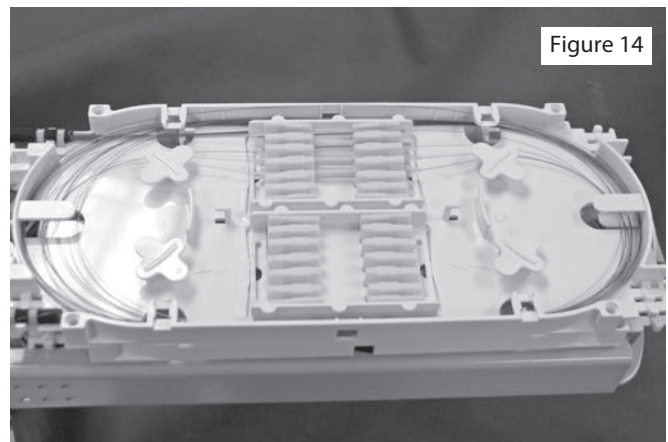

Figure 14
- Secure each side of the LBT to the tray with tie wraps. (See Fig. 14) Tie wraps should be over the LBT wrap.
- Use two tie wraps to secure the tube to the tray. (Fig. 14)